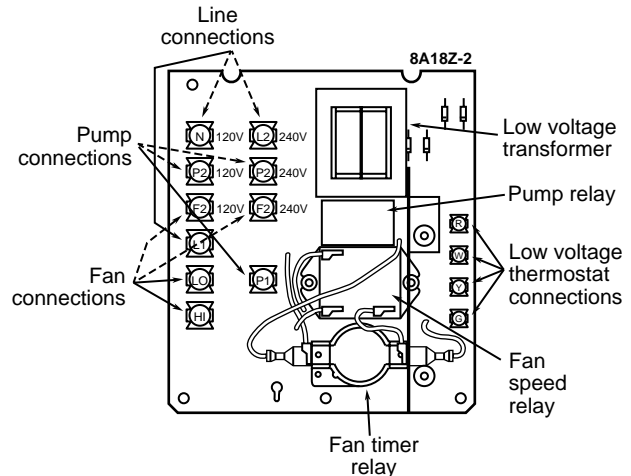

Figure 1. Panel assembly
4. Fasten sub-base loosely to wall in position shown in Fig. 1 using two mounting screws provided. Level sub-base by placing spirit level on bottom of sub-base. Tighten mounting screws to secure sub-base in level position.